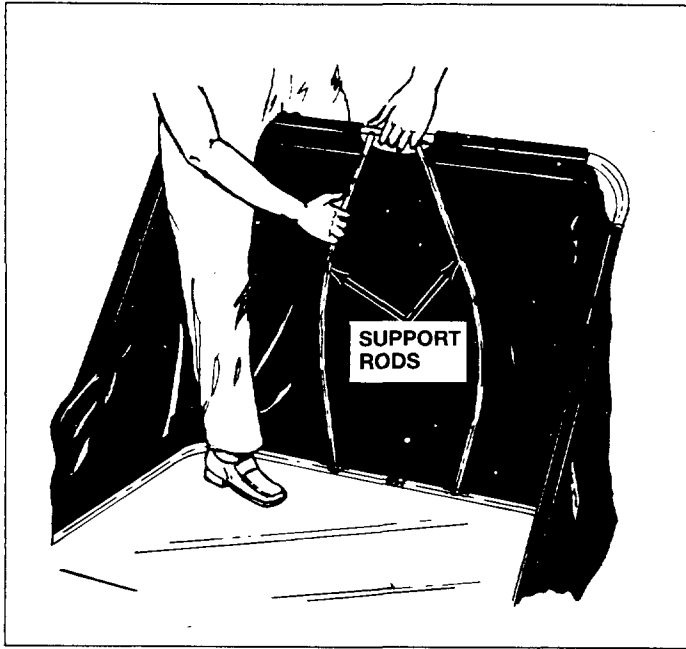

Fig. 21
- Assemble the two hopper support rods as shown in figure 21. Place top end of rod into hole in upper tube and bend rod outwards and snap bottom end of rod into hole in bottom tube.